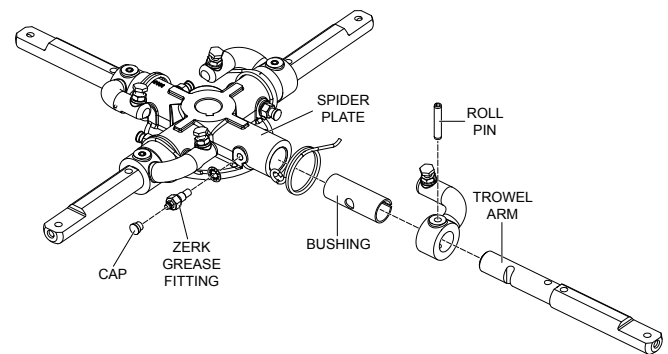

**Figure 57. Blade Removal**
2. Remove the bolts and lock washers from all the trowel arms, and then remove the blades as shown in Figure 57.